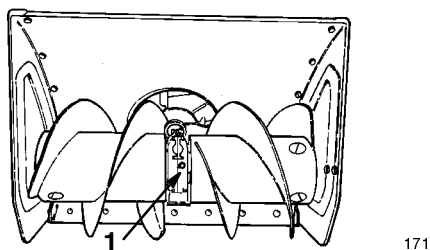

Figure 26
- Clean the area around the pipe plug (Fig. 26).
- Remove the pipe plug from the gear box (Fig. 26).